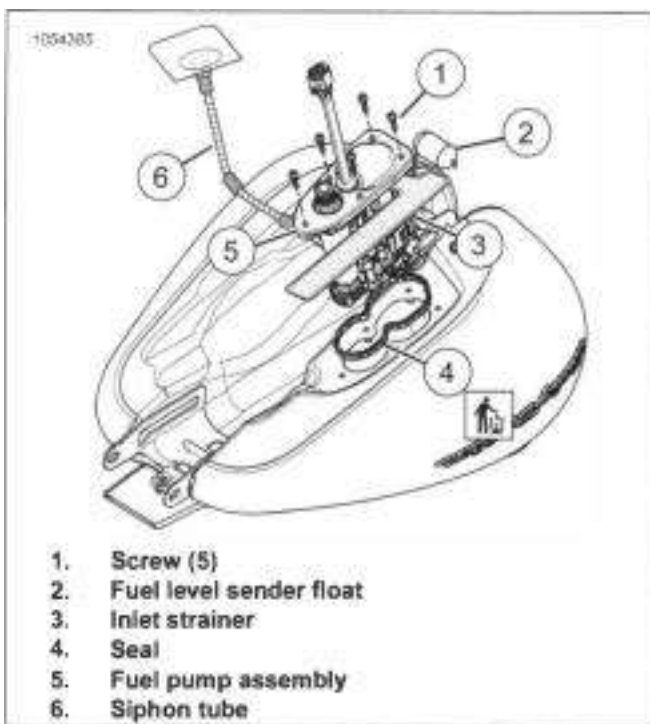

Figure 6-18. Fuel Pump
1. See Figure 6-18. Remove fuel pump assembly.
- a. Remove screws (1).
- b. Using a wooden tool, pull inlet strainer (3) from fuel tank.
- c. Remove fuel pump assembly (5).
2. Discard seal (4).
1. See Figure 6-18. Clean and inspect fuel pump assembly.
- a. Inspect fuel pickup screen (3) for damage. Replace if necessary.
- b. Clean fuel pump assembly (5).